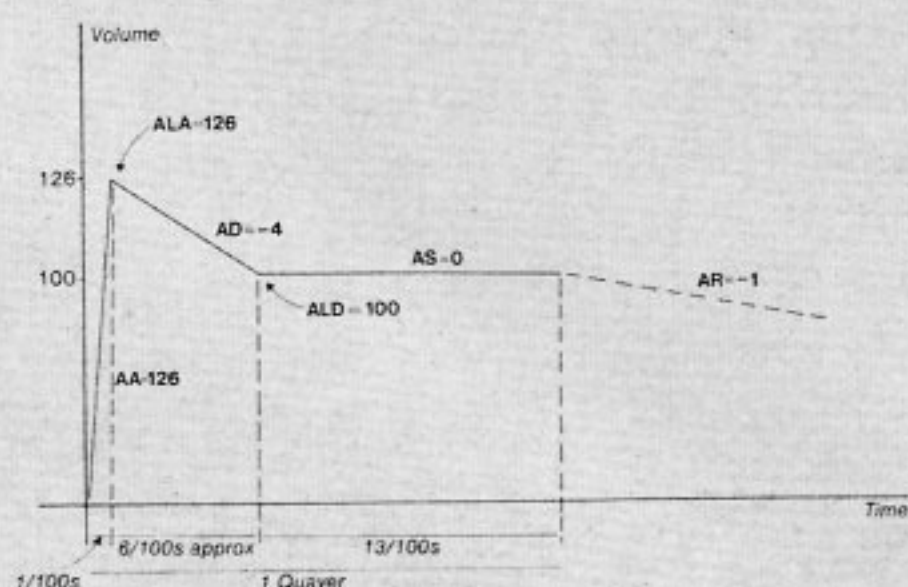
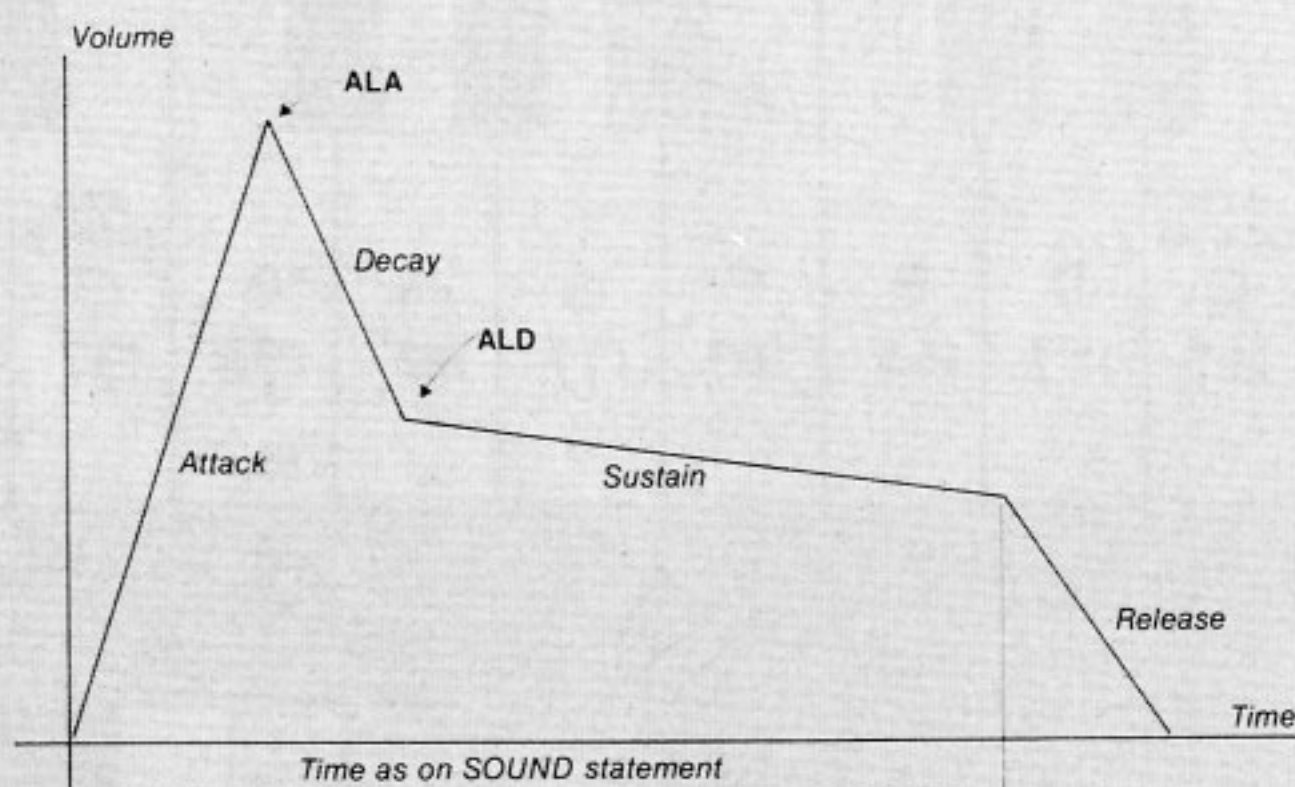

Figure 5. Percussive amplitude envelope given by ENVELOPE 1, 0, 0, 0, 0, 0, 0, 0, 126, -4, 0, -1, 126, 100.
Figure 4. Amplitude waveform common to ENVELOPE statement.
Look at figure 4. This is an amplitude waveform common to the BBC ENVELOPE statement. It consists of 4 ranges marked attack (AA), decay (AD), sustain (AS), and release (AR), as well as two set points (ALA) -volume after attack ramp and ALD, -volume after decay ramp. The volume levels ALA and ALD are numbers between 0 and 126. To produce a useful envelope consideration has to be given to the type of instrument to be imitated. Look at figure 5 which is the amplitude envelope of a percussive piano-like instrument. Note the steep gradient of the attack ramp - giving the note bite, and the gentler slope of the decay, sustain, and release ramps, giving the fading sound of a piano note. The command to produce this is: